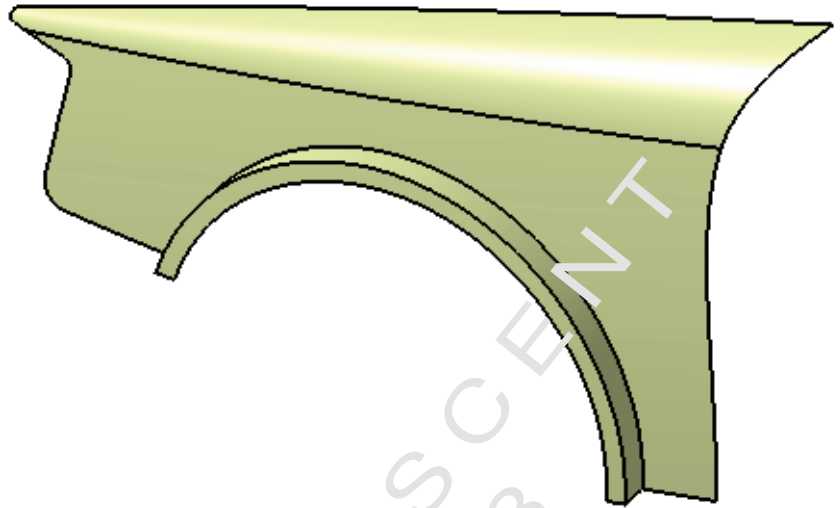

Figure 1-66
8. Split **Surface Join** using **Projected Door Curve** and **Projected Front Curve** as the cutting elements. The completed split displays as shown in Figure 1-66.